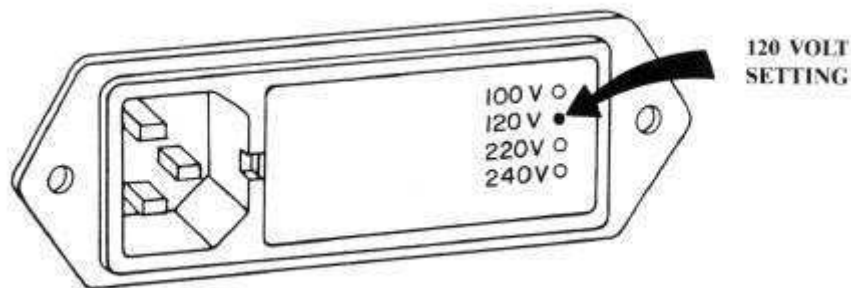

FIGURE 3-3 EXAMPLE 120 VOLT SETTING
- 3.7.2 The cover of the Power Entry Module shows four possible voltage settings (100V, 120V, 220V or 240V). Notice that a pin will be in one of these holes, indicating the present voltage setting for the 522. If this setting does not match the voltage available at your site, then it must be changed before powering on the 522. Figure 3-3 shows an example setting for 120 Vac operation.